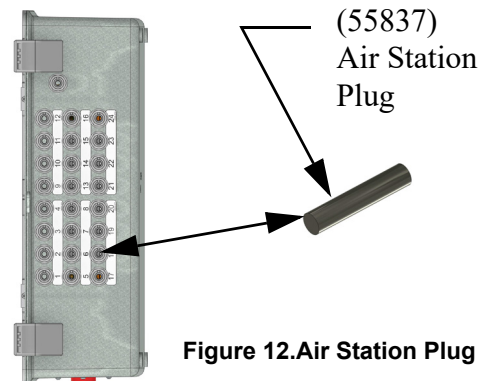

Figure 12. Air Station Plug
1. Remove the Air Station Plugs (See **Figure 12.**) and attach the Tubes to the stations.